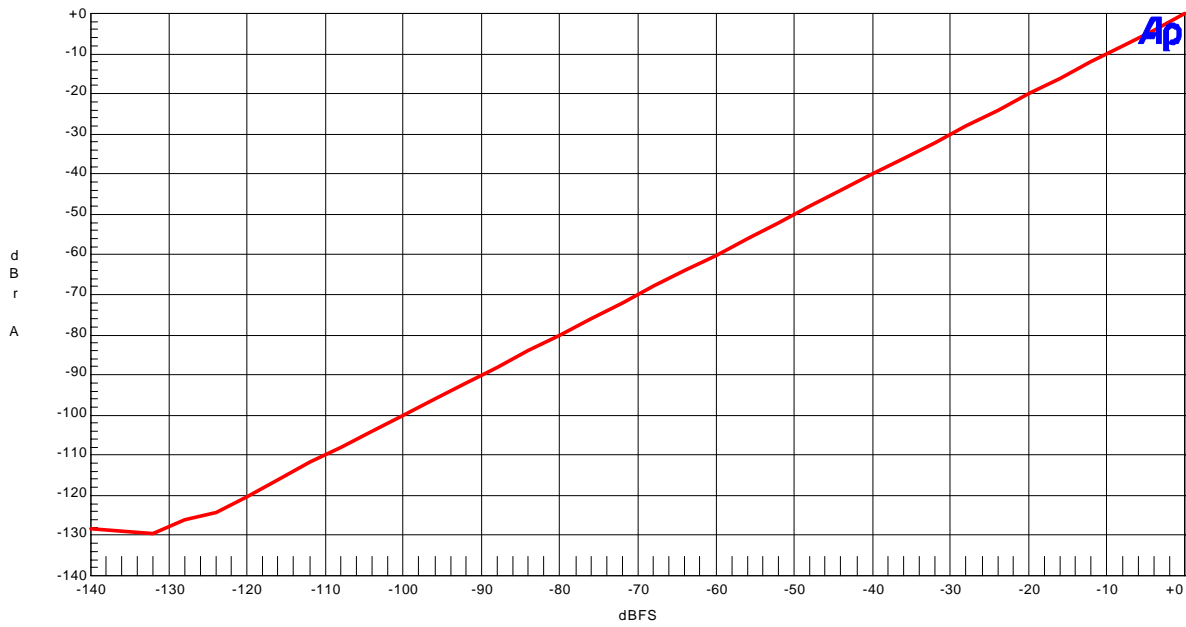

Figure 8. Linearity (fs=44.1kHz; fin=1kHz)
- Figure 8. Linearity (fin=1kHz)